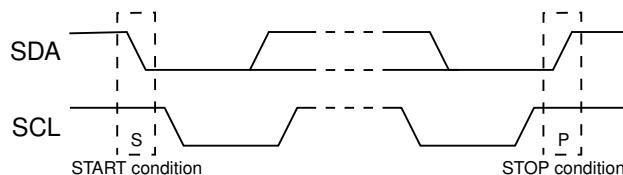

Figure 6: I²C Definition of start and stop conditions.
Both data (SDA) and clock (SCL) lines remain HIGH when the bus is not busy. A HIGH-to-LOW transition of the data line, while the clock is HIGH, is defined as the start condition (S). A LOW-to-HIGH transition of the data line, while the clock is HIGH is defined as the stop condition (P) (see Figure 6).